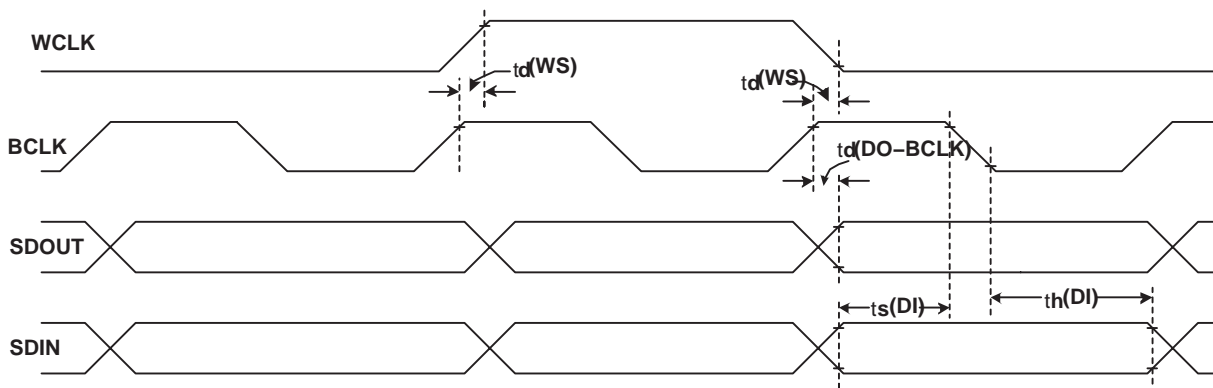

**Figure 1. DSP Timing in Master Mode**
**Typical Timing Requirements (see Figure 1)**